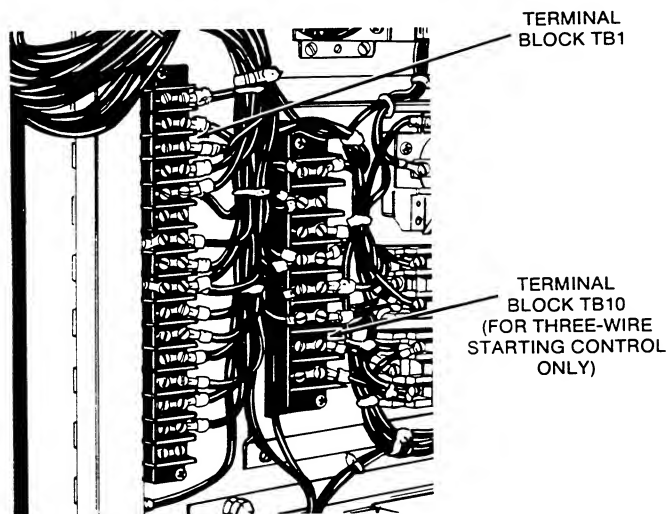

**FIGURE 5. TRANSFER SWITCH LOAD TERMINALS (SIDE VIEW)
- A. Remove switch covers, and load cover on front connect units. See Figure 5. On units in the 600 and 1000 ampere range, the end assemblies on each end of the actuator rod must be removed to facilitate removal of the switch cover.
- B. Remove nuts and lockwashers from jumper strap at center of switch (leave bolts in place). See Figure 5.
- F. Torque screws and nuts to values shown in Figure 5.